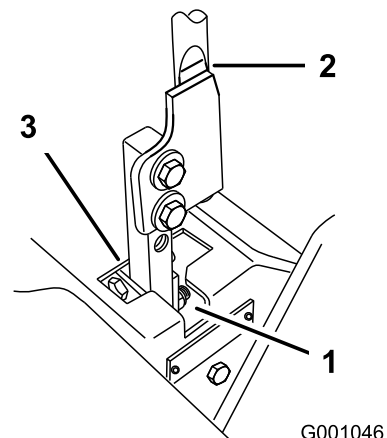

Figure 73
- Move the lever to the neutral position but **not locked** (Figure 73).
- Pull the lever back until the clevis pin (on arm below pivot shaft) contacts the end of the slot (just beginning to put pressure on the spring) (Figure 73).
- Check where the control lever is relative to notch in console (Figure 73). It should be centered allowing lever to pivot outward to the neutral lock position.